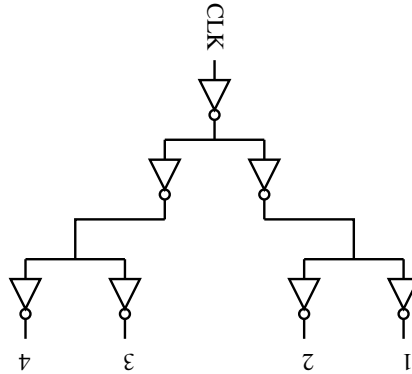

Figure 1: Question 14: Four leaf node clock tree
14. Design a 64 leaf node Clock Distribution Network(CDN) using symmetric static CMOS inverters on the lines of a 4 leaf node version shown in Fig. 1. The specifications are as follows: